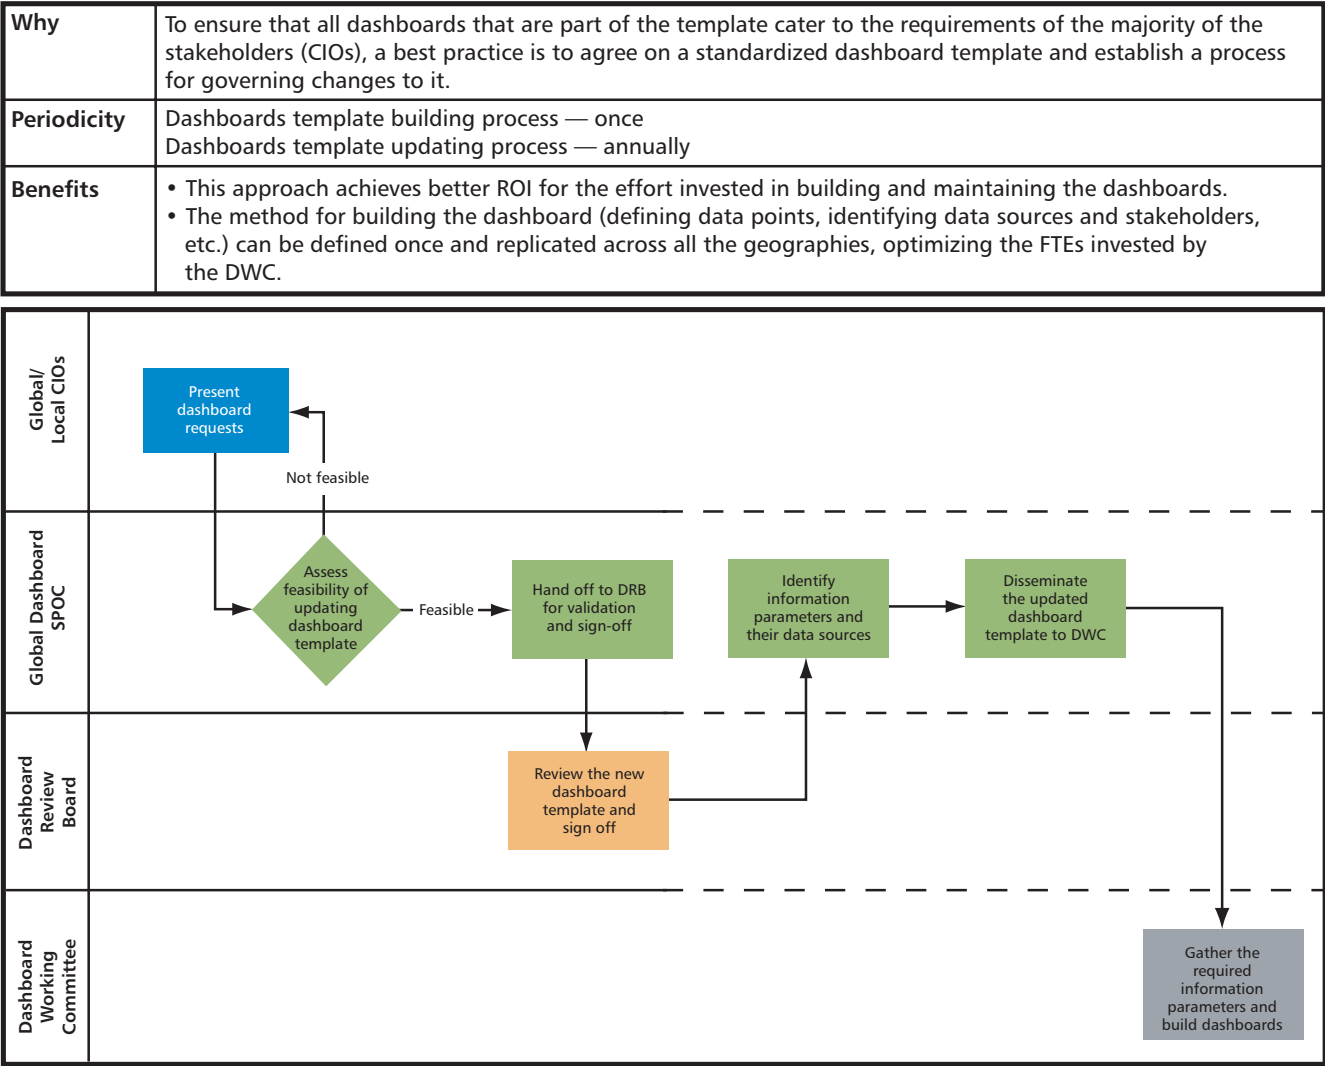

Figure 4 — Dashboard template building/updating process.
1. Building/updating the dashboards template (see Figure 4)